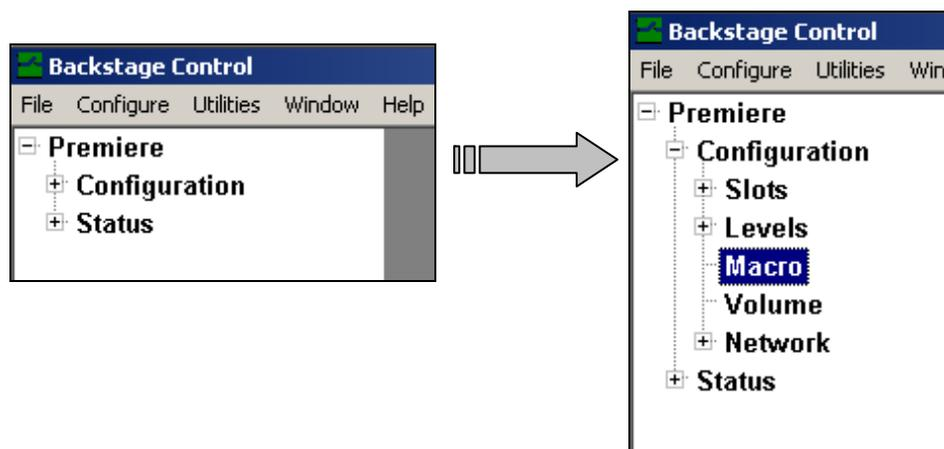

FIGURE 94: Accessing the Macro Directory
- 1) In the tree window, access the Macro directory by expanding the Premiere and Configuration root directories by clicking on the x-box (☒) adjacent to each directory (see Figure 94).